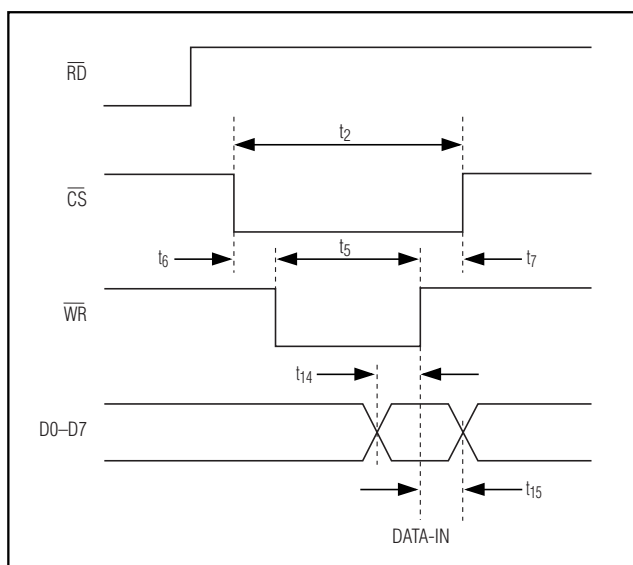

Figure 4. Write Timing
The bidirectional, parallel, digital interface sets the 8-bit configuration register (see the *Configuration Register* section) and outputs the 14-bit conversion result. The interface includes the following control signals: chip select (CS), read (RD), write (WR), end of conversion (EOC), end of last conversion (EOLC), convert start (CONVST), shutdown (SHDN), all on (ALLON), internal-clock select (INTCLK /EXTCLK), and external-clock input (CLK). Figures 4, 5, 6, 7, Table 4, and the *Timing Characteristics* section show the operation of the interface. D0–D7 are bidirectional, and D8–D13 are output only. All bits are high impedance when RD = 1 or CS = 1.
To write to the configuration register, pull \overline{CS} and \overline{WR} low, load bits D0–D7 onto the parallel bus, and force \overline{WR} high. The data are latched on the rising edge of \overline{WR} (Figure 4). It is possible to write to the configuration register at any point during the conversion sequence; however, it is not active until the next convert-start signal. At power-up, write to the configuration register to select the active channels before beginning a conversion. Shutdown does not change the configuration register. See the *Shutdown Mode* and the *ALLON* sections for information about using the configuration register for power saving.